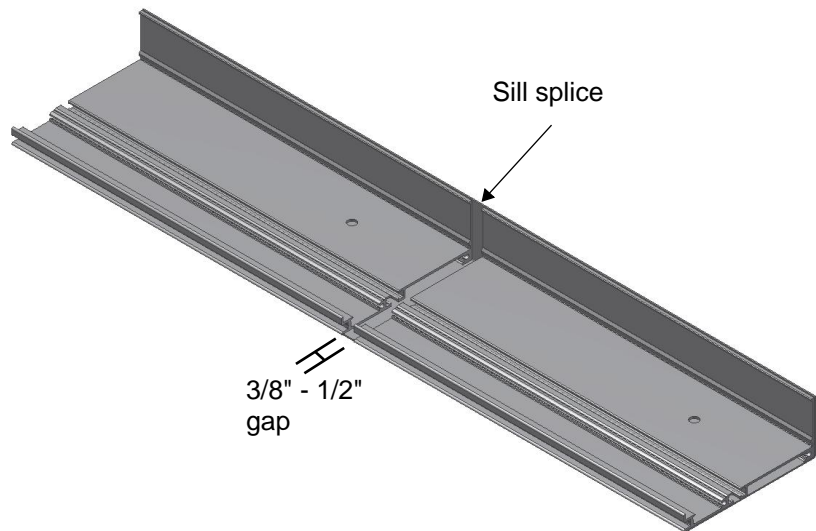

Figure 2: Extruded sill flashing longer than 24' in length should be spliced.
- Flashing longer than 24' in length should be spliced as shown in Figure 2.